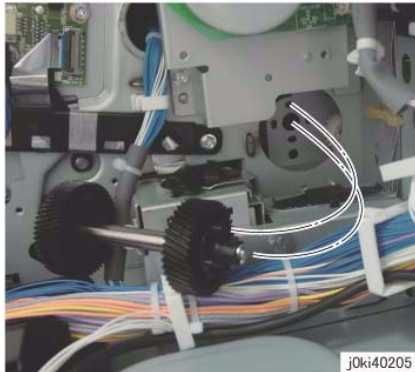

Figure 10 Install the gear and shaft
2. When installing the gear and shaft, align the bosses (x4) of the bearing to the installation holes. (Figure 10)